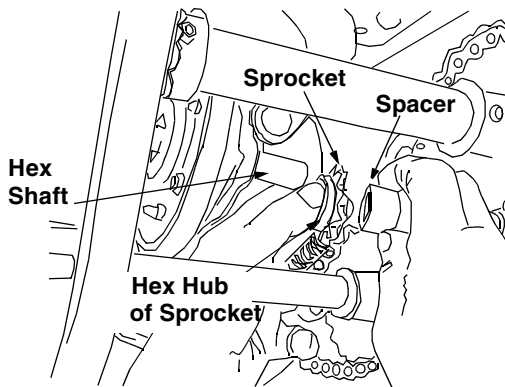

Figure 35
- Insert the hex shaft through the sprocket and the spacer. See Figure 35. Make certain that the chain engages both the large and the small sprocket.
**NOTE:** If the sprocket fell from the snow thrower while removing the hex shaft, place the sprocket on the hex shaft. Position the hex hub of the sprocket toward the friction wheel when sliding the sprocket on to the hex shaft. See Figure 35